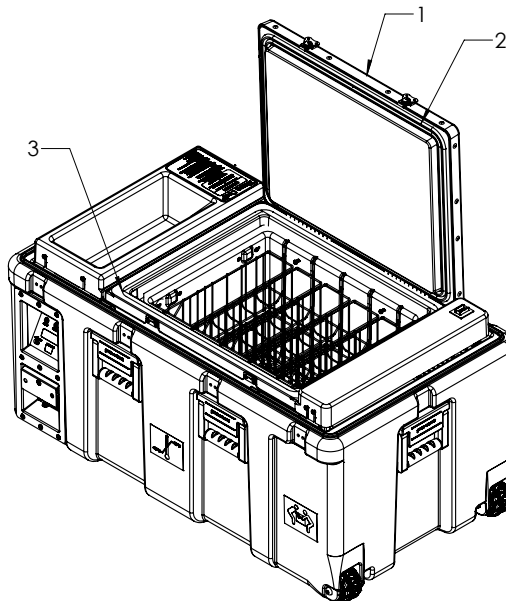

Figure 62. Inspecting Lid Gasket and Mating Surface
When the lid gaskets (item 2, Figure 62) are in good working order, there should be little or no accumulated moisture inside the AX56L, unless the lid (item 1) is opened and closed frequently.